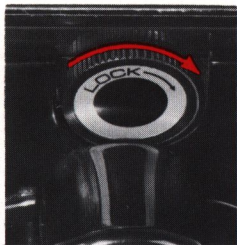

Fig. 19
1. To prevent accidental operation of the camera, lock the trigger by turning the knurled wheel on the bottom of the camera [17] in the direction of the arrow (Fig. 19).